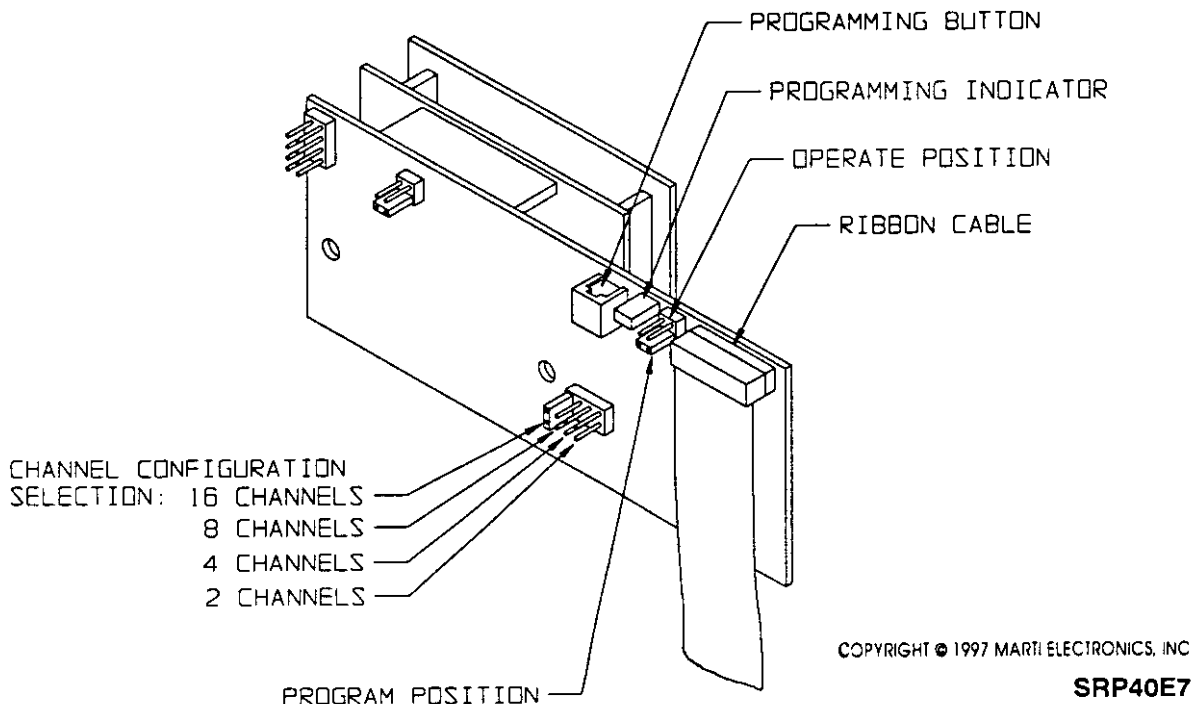

FIGURE 6. CONTROLLER CIRCUIT BOARD (VIEW FROM REAR OF UNIT)
3. Refer to Figure 6 and locate the controller circuit board. This circuit board is the larger board directly behind the front panel channel display.
4. Refer to Figure 6 and select the number of operating channels using jumper P105.
5. Refer to Figure 6 and place the **OPERATE/PROGRAM** jumper P104 on the controller circuit board in the **PROGRAM** position as shown.
- F. Refer to Figure 6 and depress the **PROGRAMMING** button. The programming LED will illuminate when the switch settings are programmed into the controller circuit board.
7. When all the channel programming has been completed, refer to Figure 6 and return the **OPERATE/PROGRAM** jumper on the controller circuit board to the **OPERATE** position.